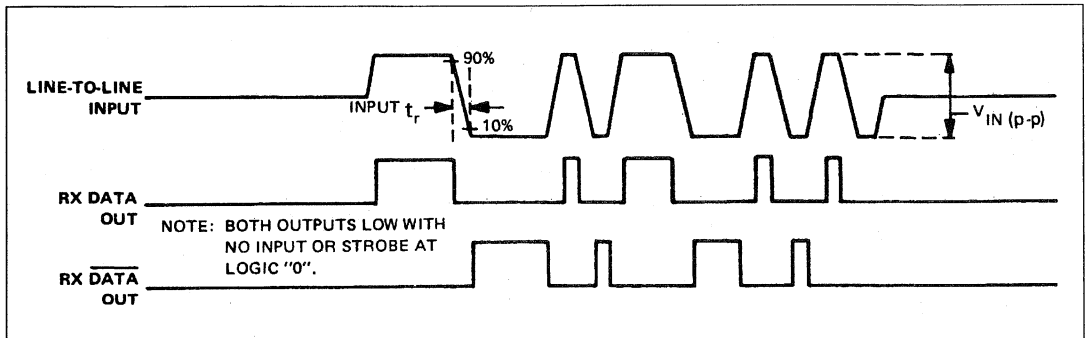

Figure 2: Receiver Logic Waveforms (for Inverted Data Output, see Ordering Information)
**ELECTRICAL CHARACTERISTICS, RECEIVER SECTION** (See Figure 2)